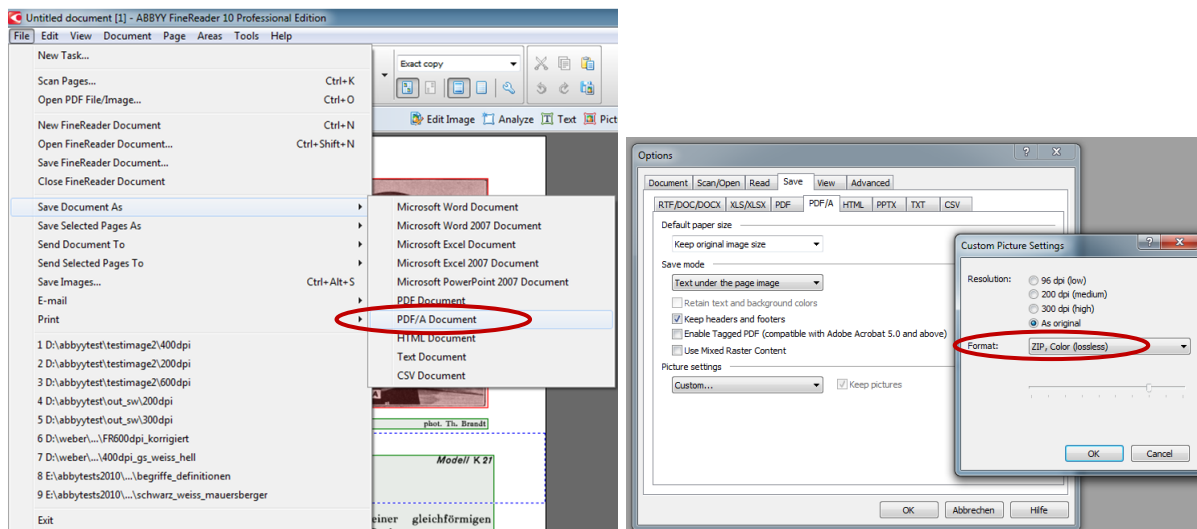

Figure 35 – FineReader – configurations for export as PDF/A file
- From the menu **File** choose the option **Save Document As...**, choose **PDF File/A Document** (see figure 35)